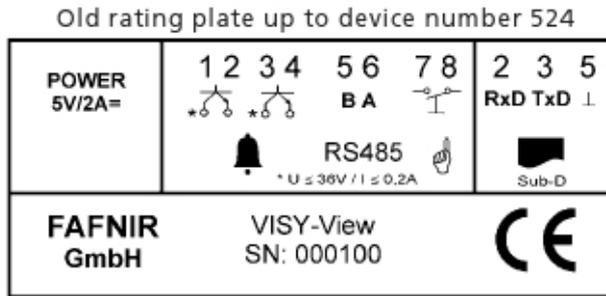
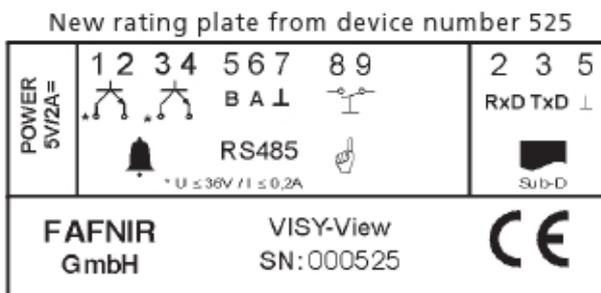

Figure 5: Name plate up to serial number 524
Figure 6: Name plate beginning with serial number 525
- (3) Connect the RS-485 interface of the VISY-View display to the RS-485 interface of the control unit VISY-Command using the terminal clamps 5 (B) and 6 (A) of the VISY-View (see rating plates in Figure 5 and Figure 6).